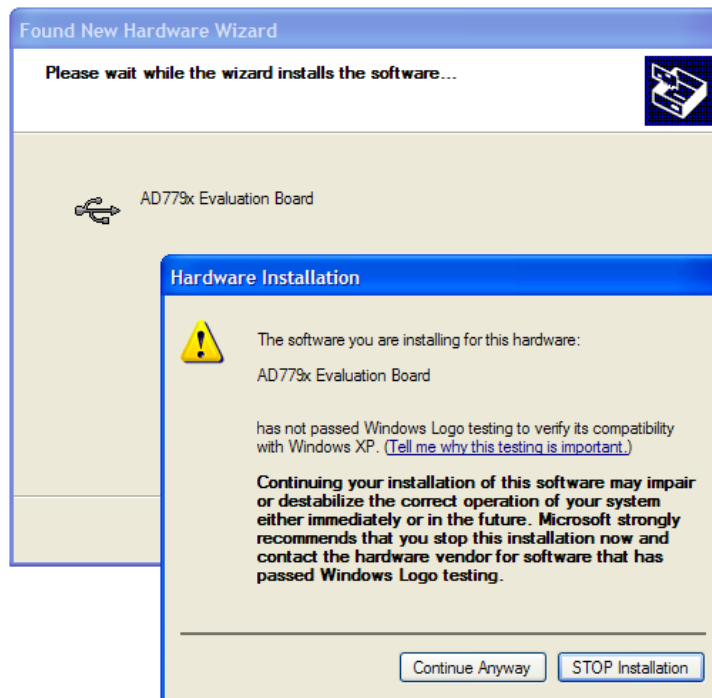

Figure 2. Hardware Installation Window
3. Follow the on-screen instructions that appear automatically. During the installation process, if the **Hardware Installation** window appears (see Figure 2), click **Continue Anyway** to successfully complete the installation of the AD7797 evaluation board.